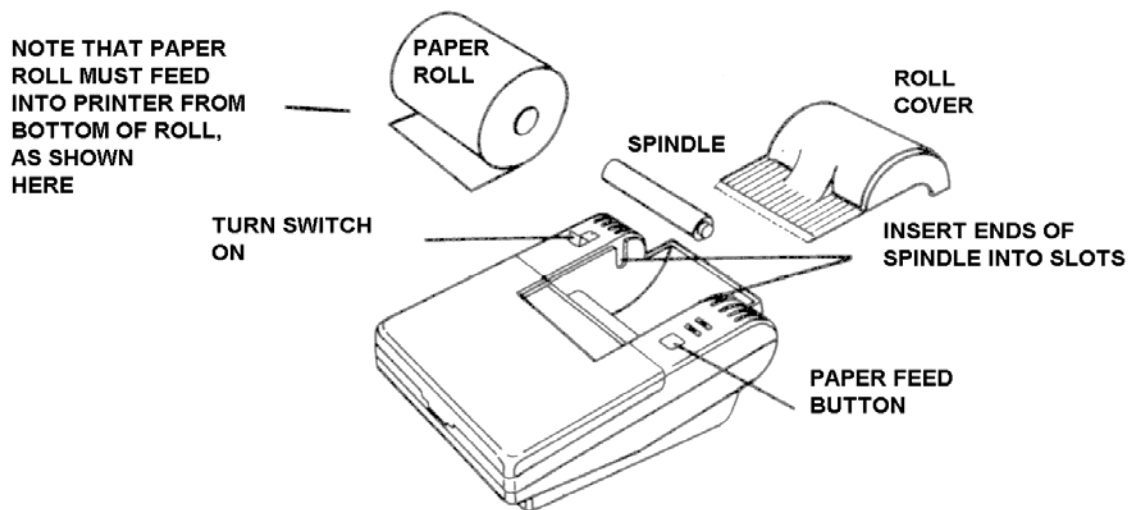

Figure B-2
3. With the paper feeding from the bottom of the roll (see Figure B-2), guide the end of the paper roll into the metal paper slot on the printer. While feeding the end of the paper into the slot with one hand, hold the paper feed button down until the printer grabs the paper.